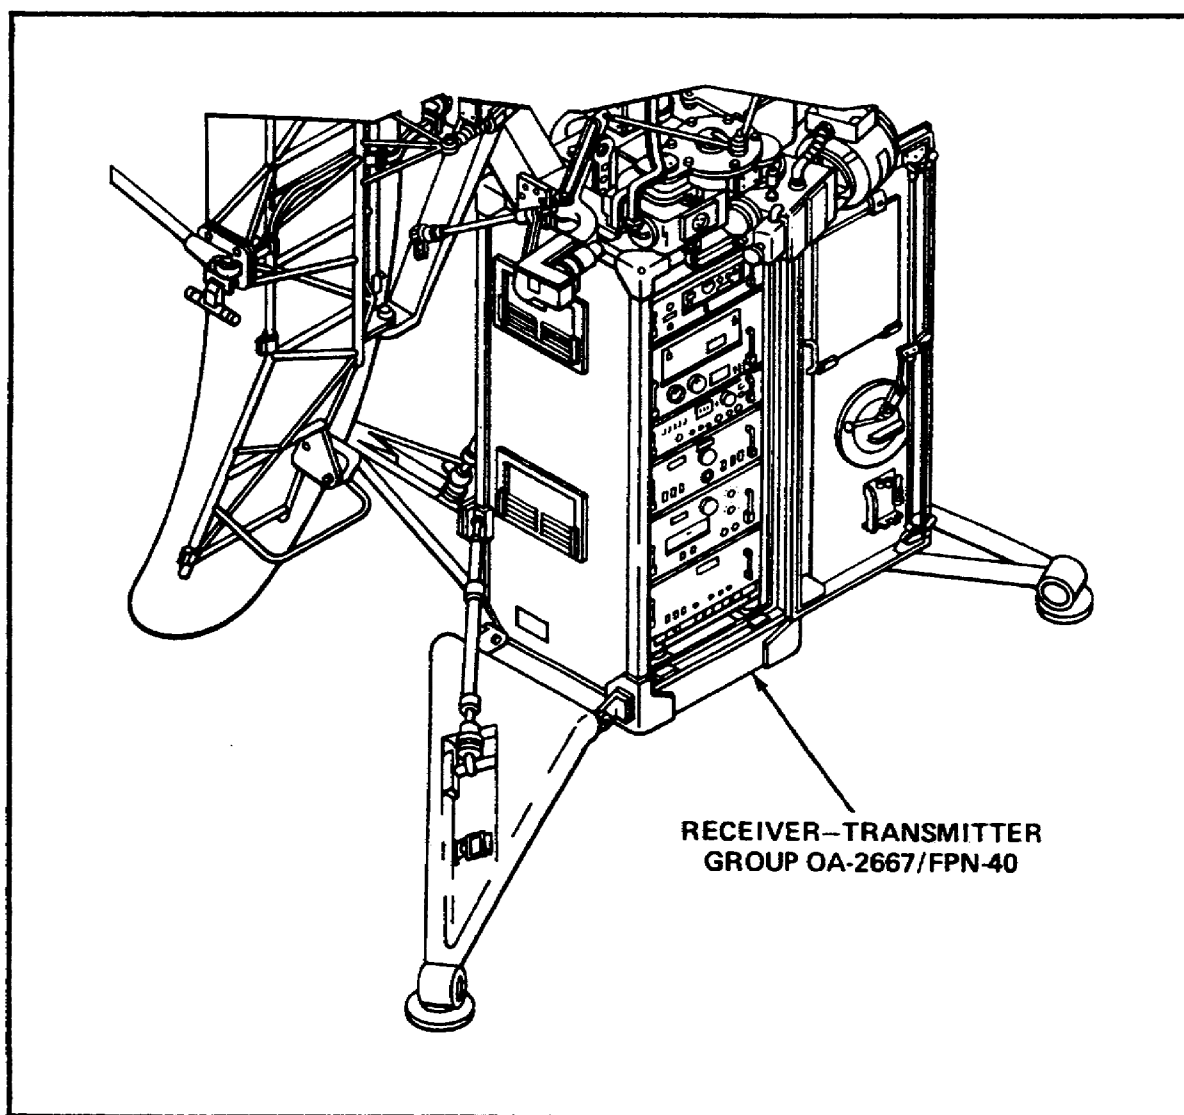

Figure 43. Receiver-transmitter group OA-2667/FPN-40.
- a. Locate and identify receiver-transmitter group OA-2667/FPN-40. (See Figure 43.)
- _____ Receiver-transmitter group OA-2667/FPN-40 (Figure 43)